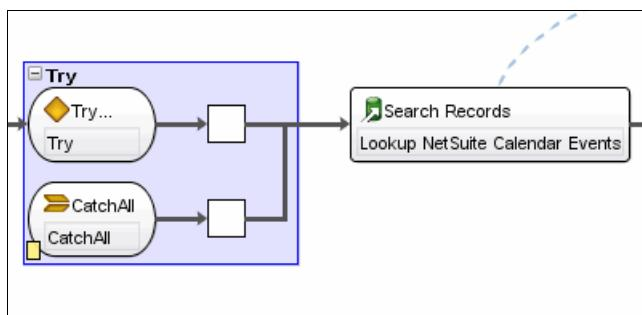

Figure 11-35 Adding a Try activity to the orchestration
- From the Logic section of the Activities tab, drag a Try activity to the left of the Search Records (Lookup NetSuite Calendar Events) activity, as shown in Figure 11-35.